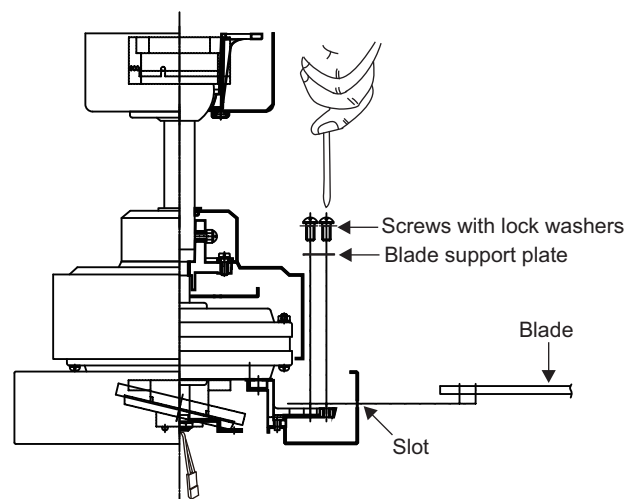

Figure 11
Step 1. Insert the blade through the slot in the housing. Align the holes in the blade and the fan motor assembly and secure with blade support plate and screws with lock washers. (Fig. 11)